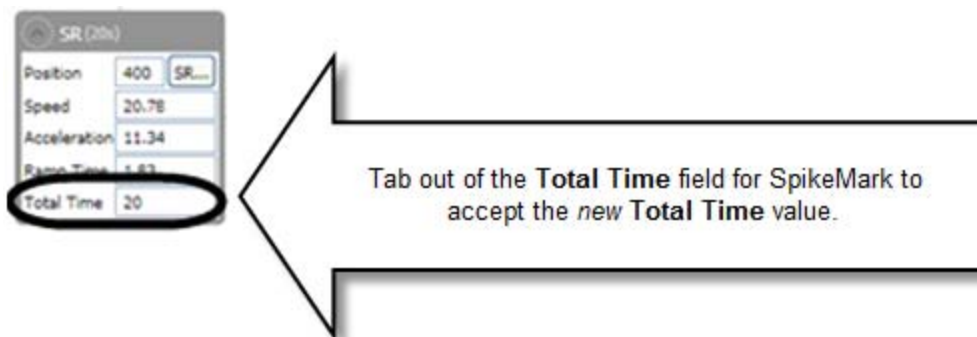

Figure 224
2. Enter in a new **Total Time** value and press the **Tab** key (Figure 224).